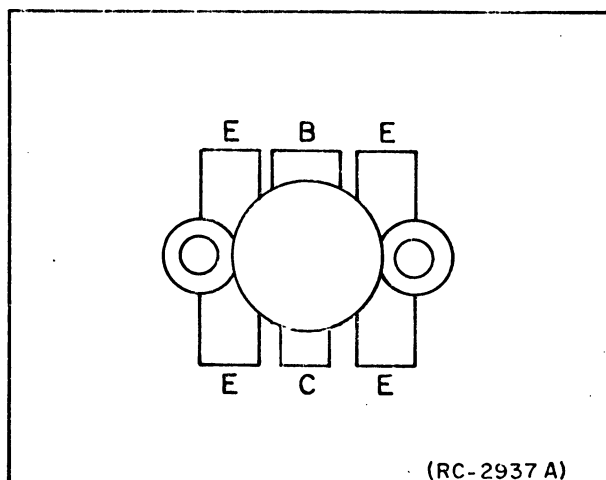

Figure 2 - PA Transistor Lead Identification for Q201 and Q202
- (1) Unsolder one lead at a time with a 50-watt soldering iron. Use a scribe or Xacto® knife to hold the lead away from the printed circuit board until the solder cools.
- (2) Turn the PA board over.
- (3) Lift out the transistor, and remove the old solder from the printed circuit board with a de-soldering tool such as a SOLDA PULLT®. Special care should be taken to prevent damage to the printed circuit board runs because part of the matching network is included in the base and collector runs.
- (4) Trim the new transistor leads (if required) to the lead length of the removed transistor. The letter "C" on the top of the transistor indicates the collector. (See Figure 2 for transistor lead identification).
- (5) Apply a coat of silicon grease to the mounting surface of the support and to both sides of the insulator. Also